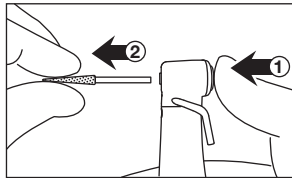

Fig. 4
- 3) Gently turn the bur until it engages with the mechanism. (Fig. 4)
- After the bur/drill is locked in place, lightly pull out the bur/drill to make sure the bur/drill is locked. (Fig. 4)
- (2) Removing